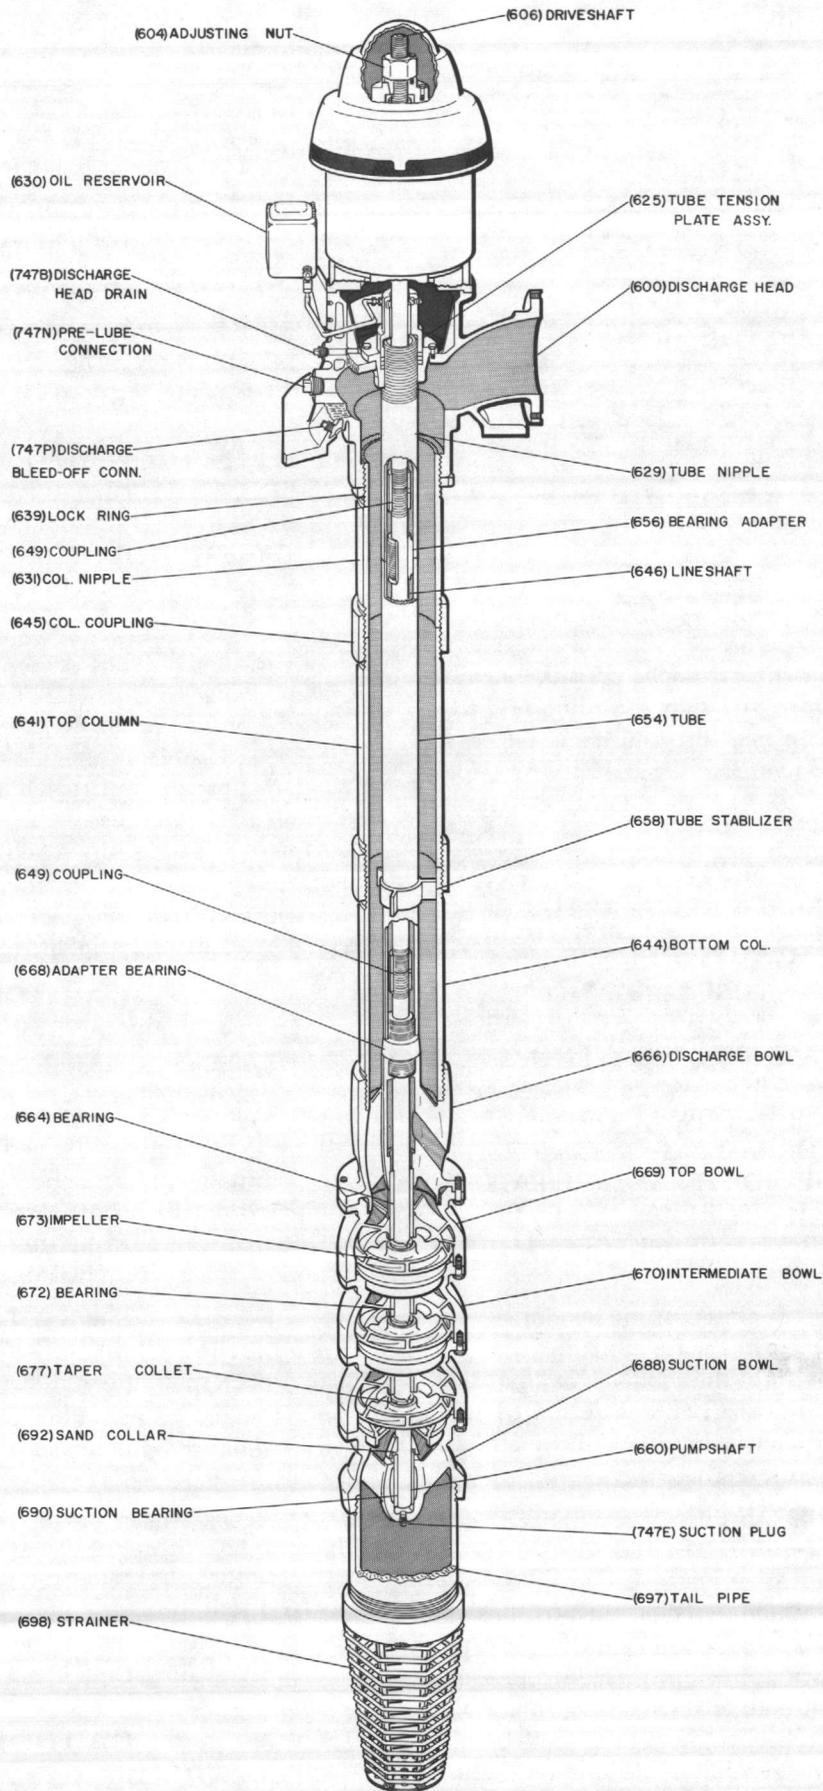

Figure 6-1 Enclosed Lineshaft Pump
6-1. INSTALLING OIL LUBRICATION COLUMN (SEE FIGURE 6-1).
D. Slowly lower the discharge head, aligning the vertical hole in the center with the shaft protruding above the column. Continue to lower the discharge head (600), until the large threaded hole in the bottom of discharge head rests squarely on top of column. Rotate discharge head, threading onto column, butting the top of column tightly against the discharge head. (SEE FIGURE 6-1).
E. If pump has a column nipple (631) with product lube, screw the discharge head onto the column nipple until the head shaft (608) extends above the top of pump base, about one inch plus adjusting nut thickness, and the distance through the motor or gearhead drive, often referred to as the C.D. Dimension. For oil lube (enclosed line shaft), the tube nipple (631) should be approximately $\frac{3}{4}$ " above the surface where the tube tension plate (625) mates with the head (600).